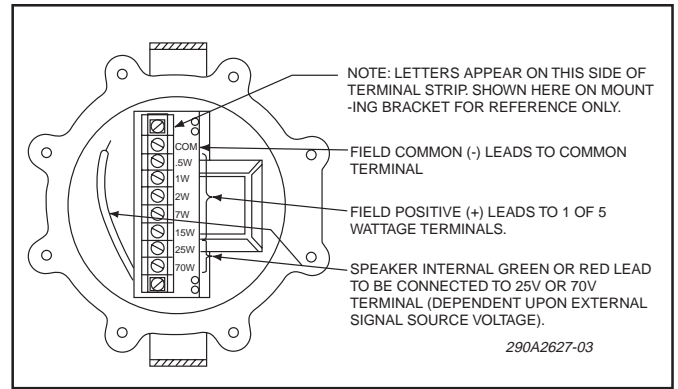

Figure 3. Internal Multi-tap Wiring Set-up.
- b. Connect green or red lead found in the speaker to 25 V or 70 V terminal as appropriate, see Figure 3.
1. After installation is complete, be sure to test the system to verify that each speaker operates satisfactorily. If it is found that the unit is too loud for its location, a lower wattage tap may be selected. Carefully remove the housing cover and move the positive (+) lead to a lower wattage tap (see Figure 3). Reinstall the housing cover and retest.